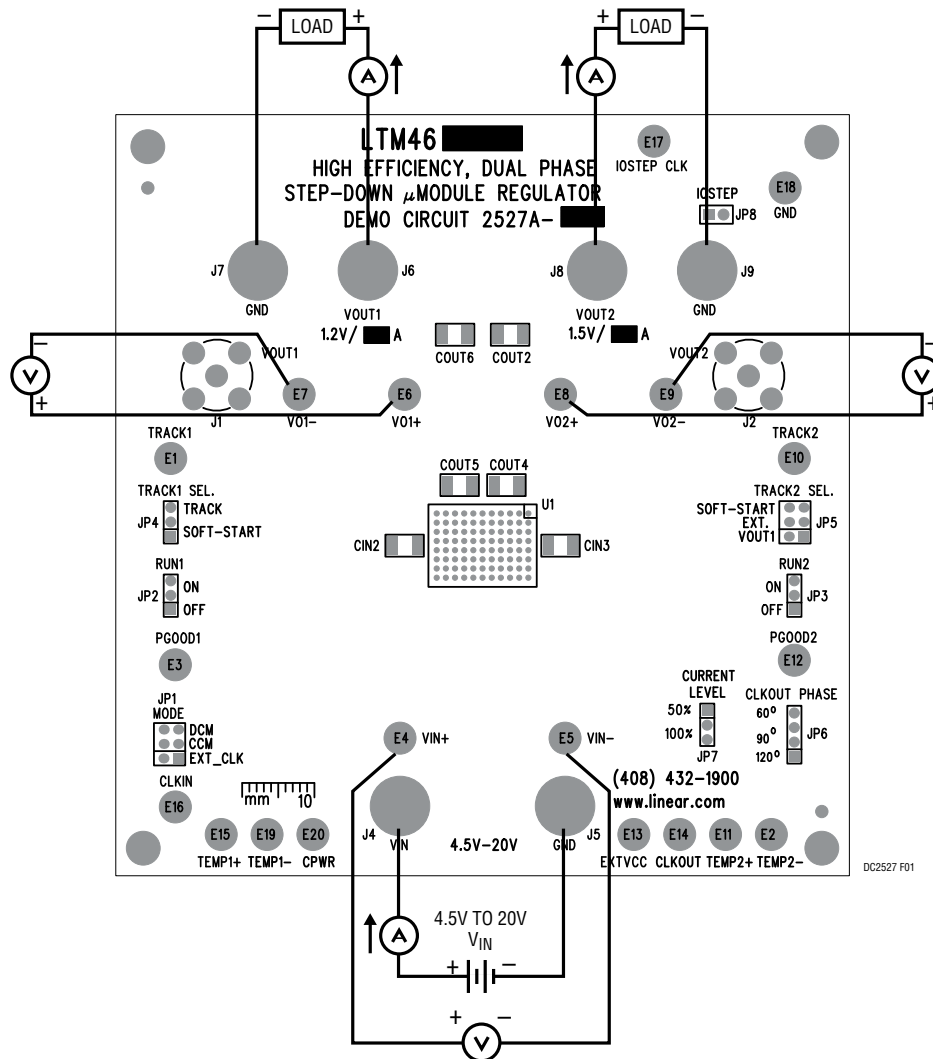

Figure 1. Measurement Setup of DC2527A
Demonstration circuit DC2527A-A is an easy way to evaluate the performance of the LTM4662EY. Please refer to Figure 1 for proper measurement equipment setup and follow the procedure below:
- With power off, connect the input power supply, load and meters as shown in Figure 1. Preset the load to 0A and V_{IN} supply to 12V.